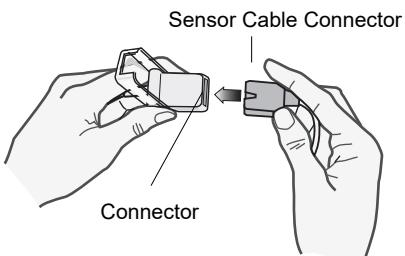

Figure 10-1 Plug the Sensor Connectors Together
- If you are using the two-piece patient cable, lift the clear plastic protective cover from the female end of the extension cable, then plug the sensor cable’s male connector into the extension cable connector -- make sure that the plug is all the way into the connector (see Figure 10-1).